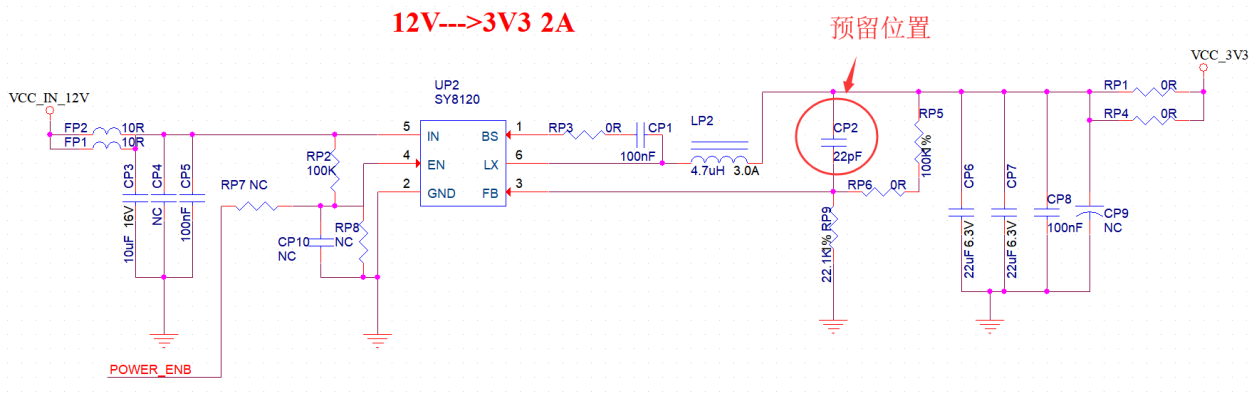

Figure 10 Recommended power supply circuit
2) If the external MCU GPIO is connected to the RESET pin of the module via a triode (as shown in Figure 10), the leakage current in the triode cut-off state is required to be less than 0.5uA. The reason is that the internal drag resistance of the RESET pin is very weak, and the leakage may pull the RESET pin below 1.2V. The NB chip work normally for its RESET pin high level need guaranteed to be above 1.2V.
① Use a MOS tube instead of the triode, most MOS leakage current is small.
② The pull-up circuit is reserved on the circuit (as shown in FIG. 10). The voltage range of VCC is 1.8V-3.6V and need often open. Do not use the electricity from the NB module.